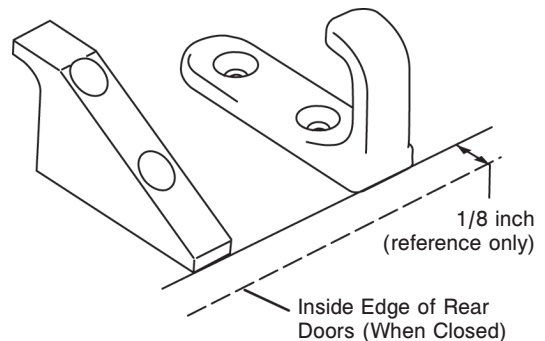

Figure 11 - Safety Hook Placement
3. Center the safety hook on the cot safety bar, with the hook facing the front of the vehicle (Figure 11). For best results, the face of the safety hook which engages the safety bar should be at least 3-3/4" from the leading edge of the door sill (Figure 11).